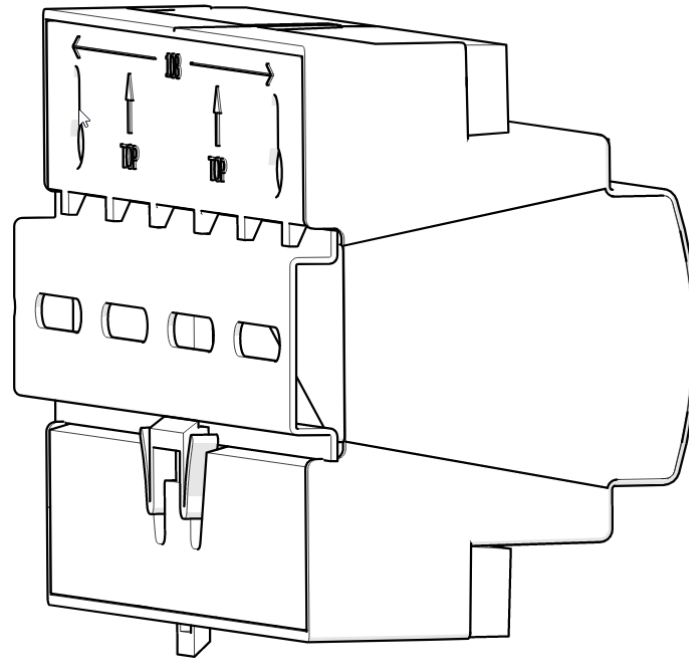

Figure 8. Lock the XM-DI-16 unit on the DIN rail
4. Release the retention clip to lock the unit on the DIN rail. Refer Figure 8.